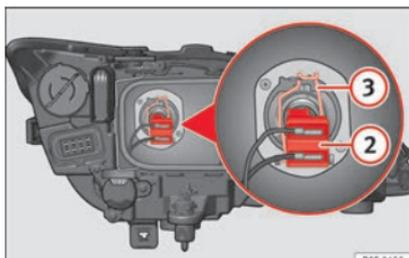

Fig. 206 Dipped beam headlights.
- Remove connector » Fig. 206 ② from the bulb.
- Unclip the retainer spring » Fig. 206 ③ pressing inwards to the right.